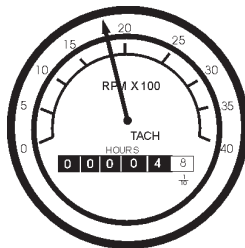

Figure 51. Engine Tachometer
16. The tachometer (Figure 51) will indicate the speed of the engine when the generator is operating. Under normal operating conditions this speed is approximately 1800 RPM's.